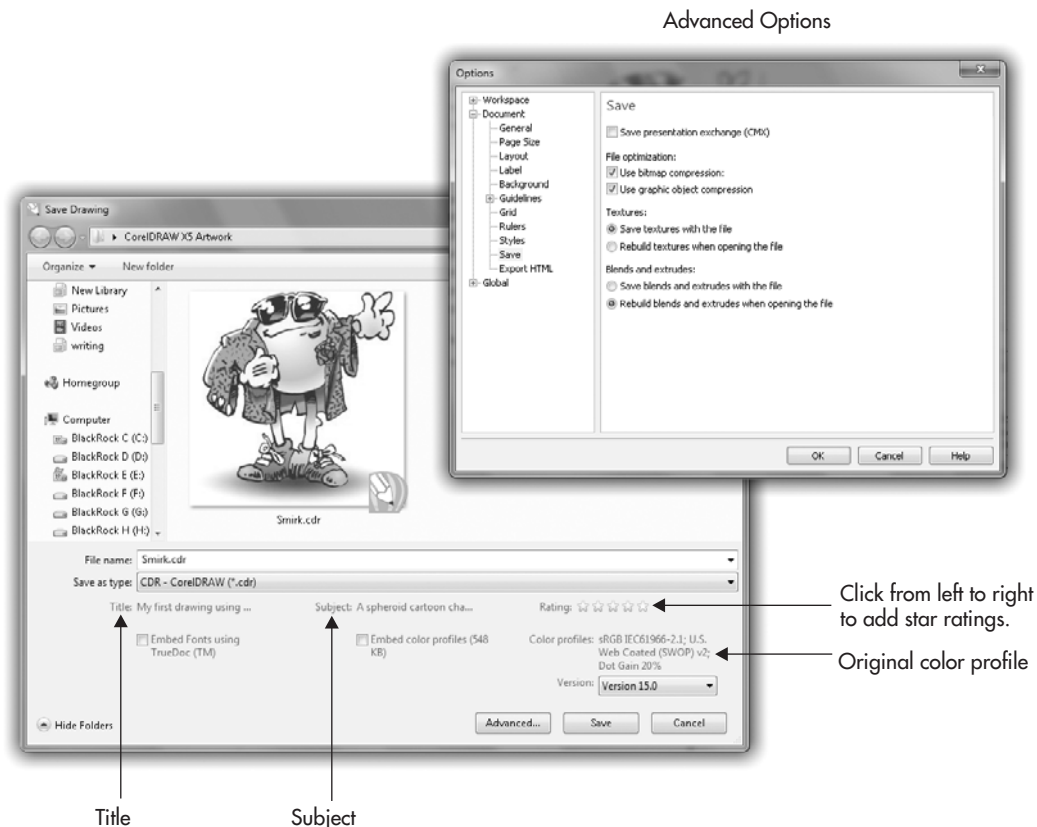

FIGURE 3-3 The Save Drawing dialog can save a file with user information and other options.
1. If you've just started a new document and want to save it, click the Save button in the standard toolbar, use the CTRL+S shortcut, or choose File | Save. The Save Drawing dialog appears, as shown in Figure 3-3.